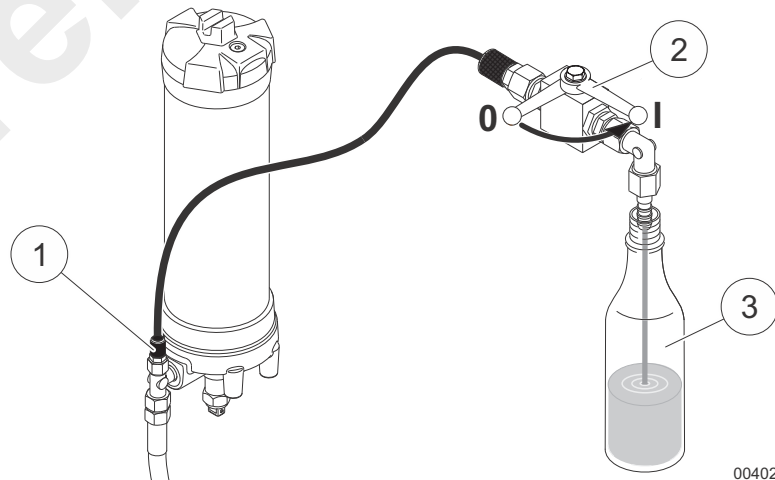

Fig. 4 Draining flushing oil
4	Remove the protective cap from the measurement connection (1) in Fig. 4.
5	Connect the device for removing hydraulic oil samples (2) in Fig. 4 to the measurement connection (1) in Fig. 4 and drain around 0.25 l hydraulic oil into an empty container (3) in Fig. 4.